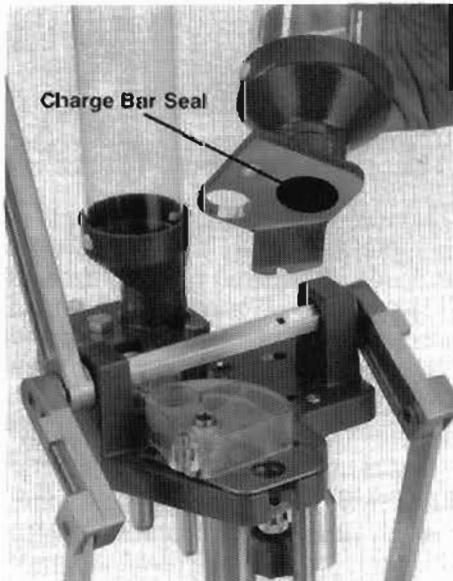

Fig. 6
**Figure 6** - The shot hopper is installed the same way as the powder hopper. Insert the rubber charge bar seal into the underside of the measure casting, and align the measure casting over the charge bar. Replace and tighten the hex bolt.